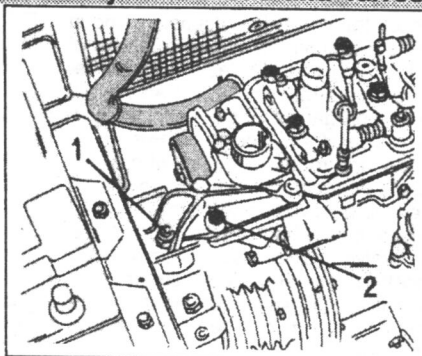

Fig. 1.48. — The location of the engine mountings on the R.H. side of the engine.
- Remove the engine mounting in Fig. 1.48. First remove the two bolts near the water pump, then the nut (1) in the centre of the engine mount and finally the aluminium carrier bracket (2). Make sure that the engine is well supported before the mounting parts are removed.